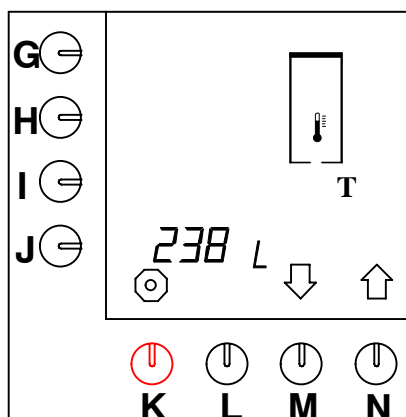

Fig. 29 Total counter hot water system
- The total counter appears on the display. The total number of litres of hot water that have been made during the lifetime of the machine can be read from the display (fig. 29 ).